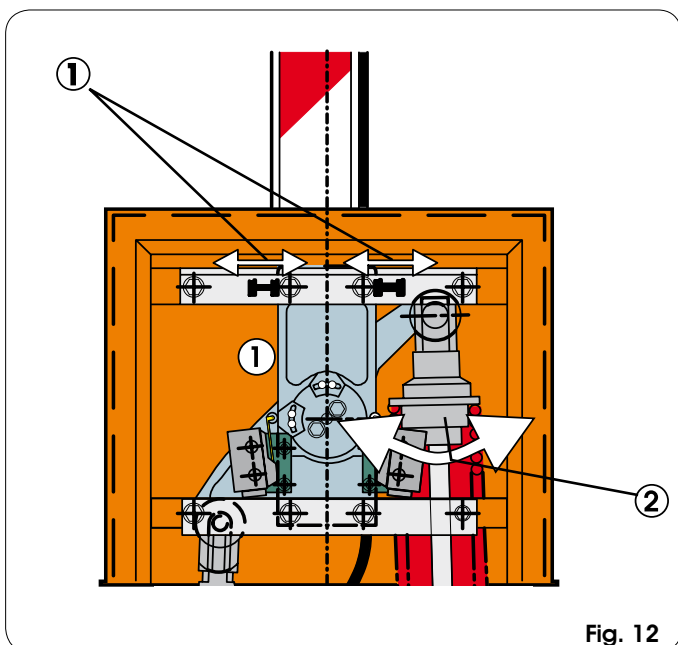

Fig. 12
- 5) Adjust the opening and closing travel limit mechanical stops as per fig.12 ①. and verify beam balancing following the instructions in paragraph 4.4.
- 2) If the barrier tends to close, turn the spring pre-loading ring-nut (Fig.12 ref.②) clockwise, if it tends to open, turn it anti-clockwise.